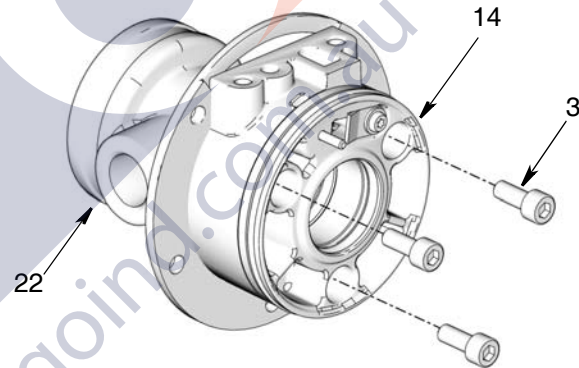

Fig. 11
19. Pull the flange assembly off the displacement rod (25). Set the displacement rod aside. You will not need it until you reassemble the pump.
20. Using a 5 mm socket wrench remove the 3 screws (3) from the bottom cover (14) (Fig. 11).
21. Separate the bottom cover (14) from the flange (22) (Fig. 11).